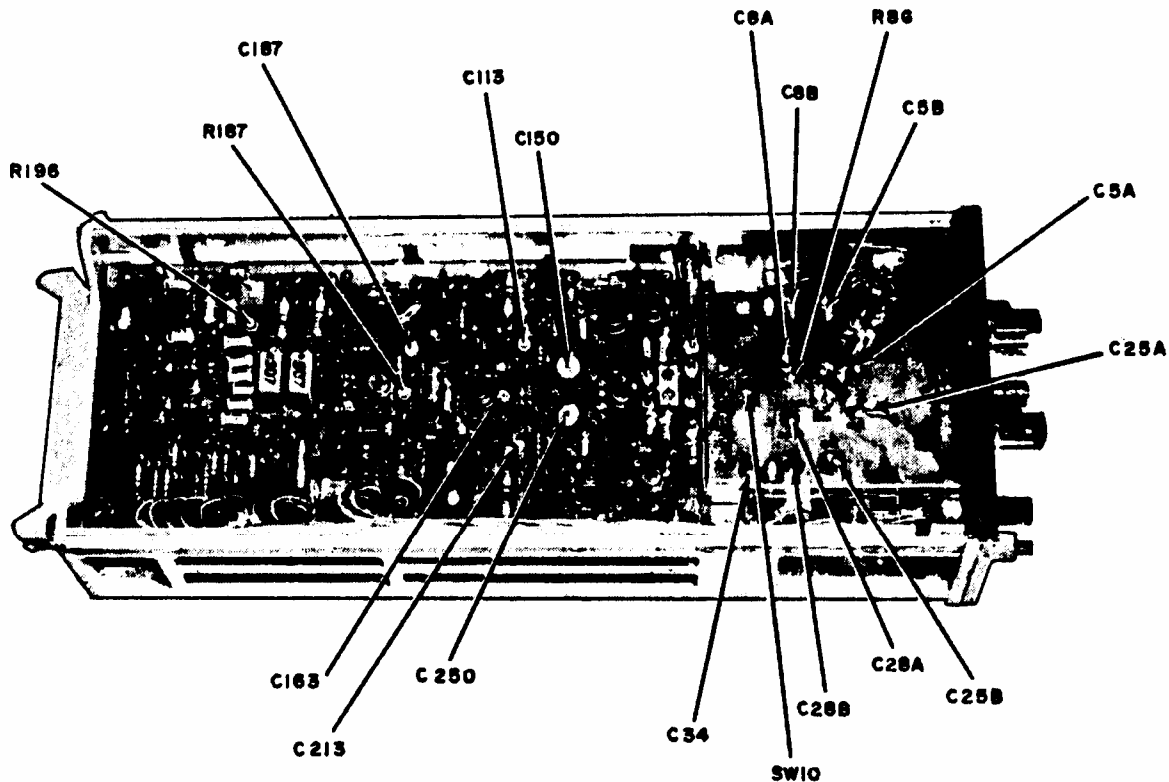

Figure 1. Adjustment locations - left side view (Type 7A13).
- (1) + and - polarity pushbuttons out.
- (2) **VOLTS/DIV** switch to 10 mV and **VOLTS/DIV VARIABLE** control to **CAL** (detent).
- (3) **+INPUT** and **-INPUT** pushbuttons to **GND**.
- (4) **VOLTS** counter set to 0.000 (cw 0.000 for TI's with electrical counter).
- (5) **PULL VOLTS/DIV VAR FOR X10 Vc** control pushed in.
- (6) **VAR BAL** control to midrange.
- (7) **BW** pushbutton to 5 MHz.
- (8) **POSITION** control to midrange.
- (9) **X10 BAL** control to midrange.
- (10) **STEP ATTEN BAL** control to midrange.
- (11) **SW 10** switch (fig. 1) fully ccw (R in = 1 MΩ).
Test instrument VOLTS/DIV switch settings	Adjustments (fig. 1)